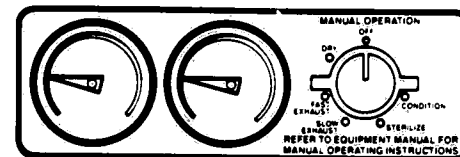

FIGURE 2-11 - Manual Control
2. Turn STEAM and WATER valves to ON. Turn MANUAL control (Figure 2-11) to JACKET CHARGE (units with auto-utilities and/or steam generator options only). Steam enters jacket and begins to warm chamber.